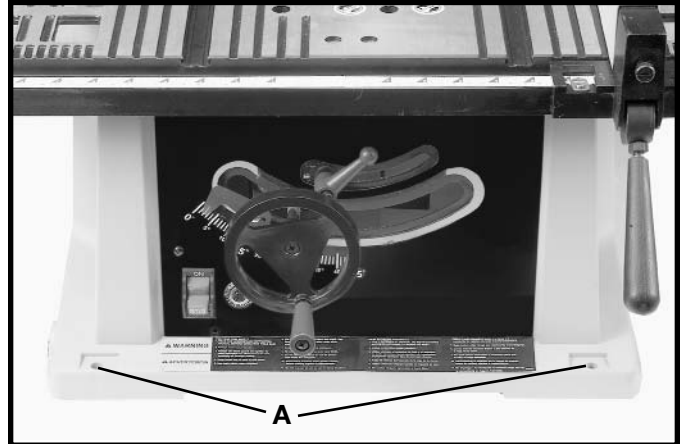

Fig. 27
The saw **MUST** be properly secured to a supporting surface using the four mounting holes, two of which are shown at (A) Fig. 27.